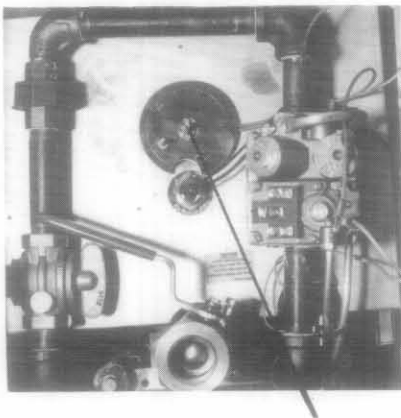

Fig. 1
- 2) Use an Allen wrench to loosen set screw at the side of the thermostat knob. Remove the thermostat knob. See Figure 1.